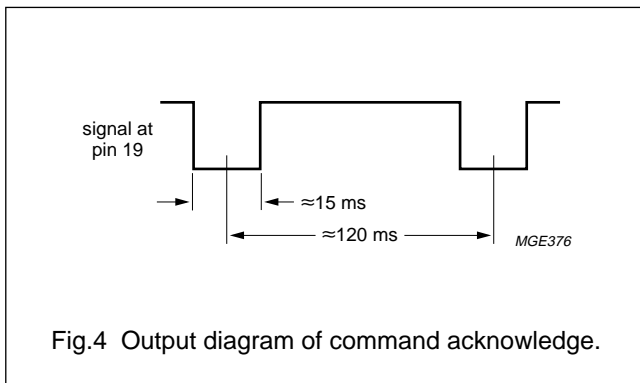

Fig.4 Output diagram of command acknowledge.
- In Figs 5, 6 and 7 this HIGH/LOW switching is dependent on whether the transistor on pin 19 is fed via a series resistor or not. In both applications pin 19, which toggles several times (see Fig.4) while a valid command is acknowledged, can be used to activate (flash) an LED indicator.